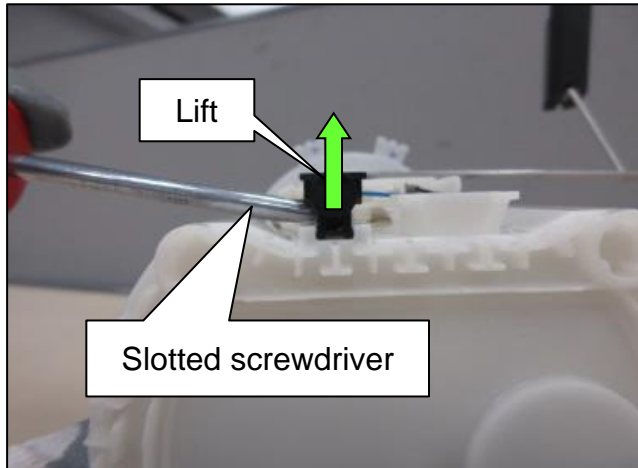
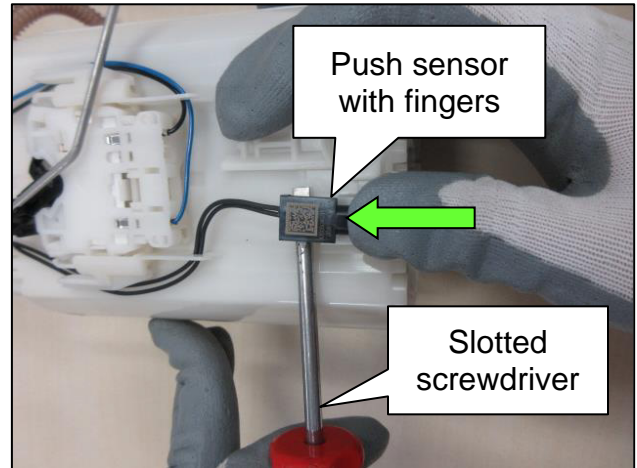

Figure 6
Figure 7
5. Use the slotted screwdriver to lift the fuel temperature sensor from the clip on the fuel pump body as shown in Figure 6, and then, at the same time, push the sensor from the bottom side of the fuel pump with your fingers as shown in Figure 7 to remove.